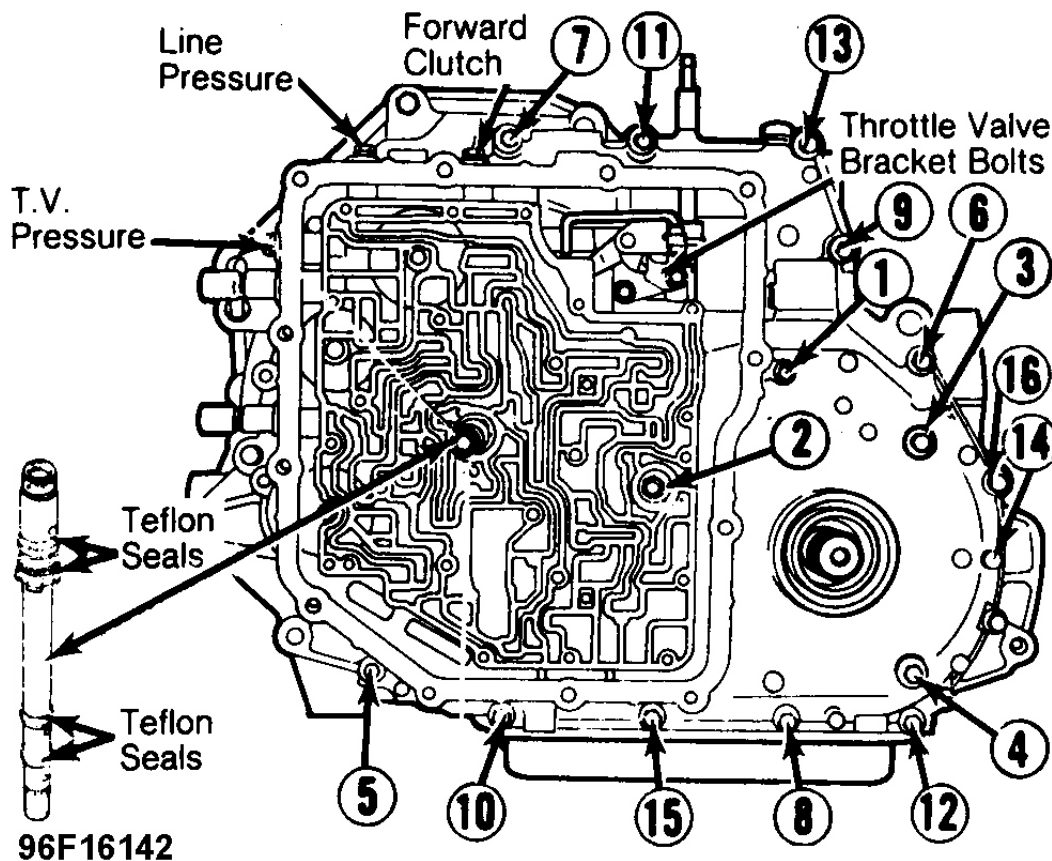

Fig. 35: Chain Cover Tightening Sequence
27. Start remaining chain cover bolts and tighten in sequence to specification. See **Fig. 35** . Input shaft should have little end play and rotate freely. If it does not rotate freely, remove chain cover and check for damaged cast iron seal.
28. Tighten park rod abutment bolts, reverse anchor pin bolt and lock nut to specifications. Clean and lightly tap tubes into position until fully seated. Apply Threadlock (262) around tube-to-case surface. Install tube retaining brackets.